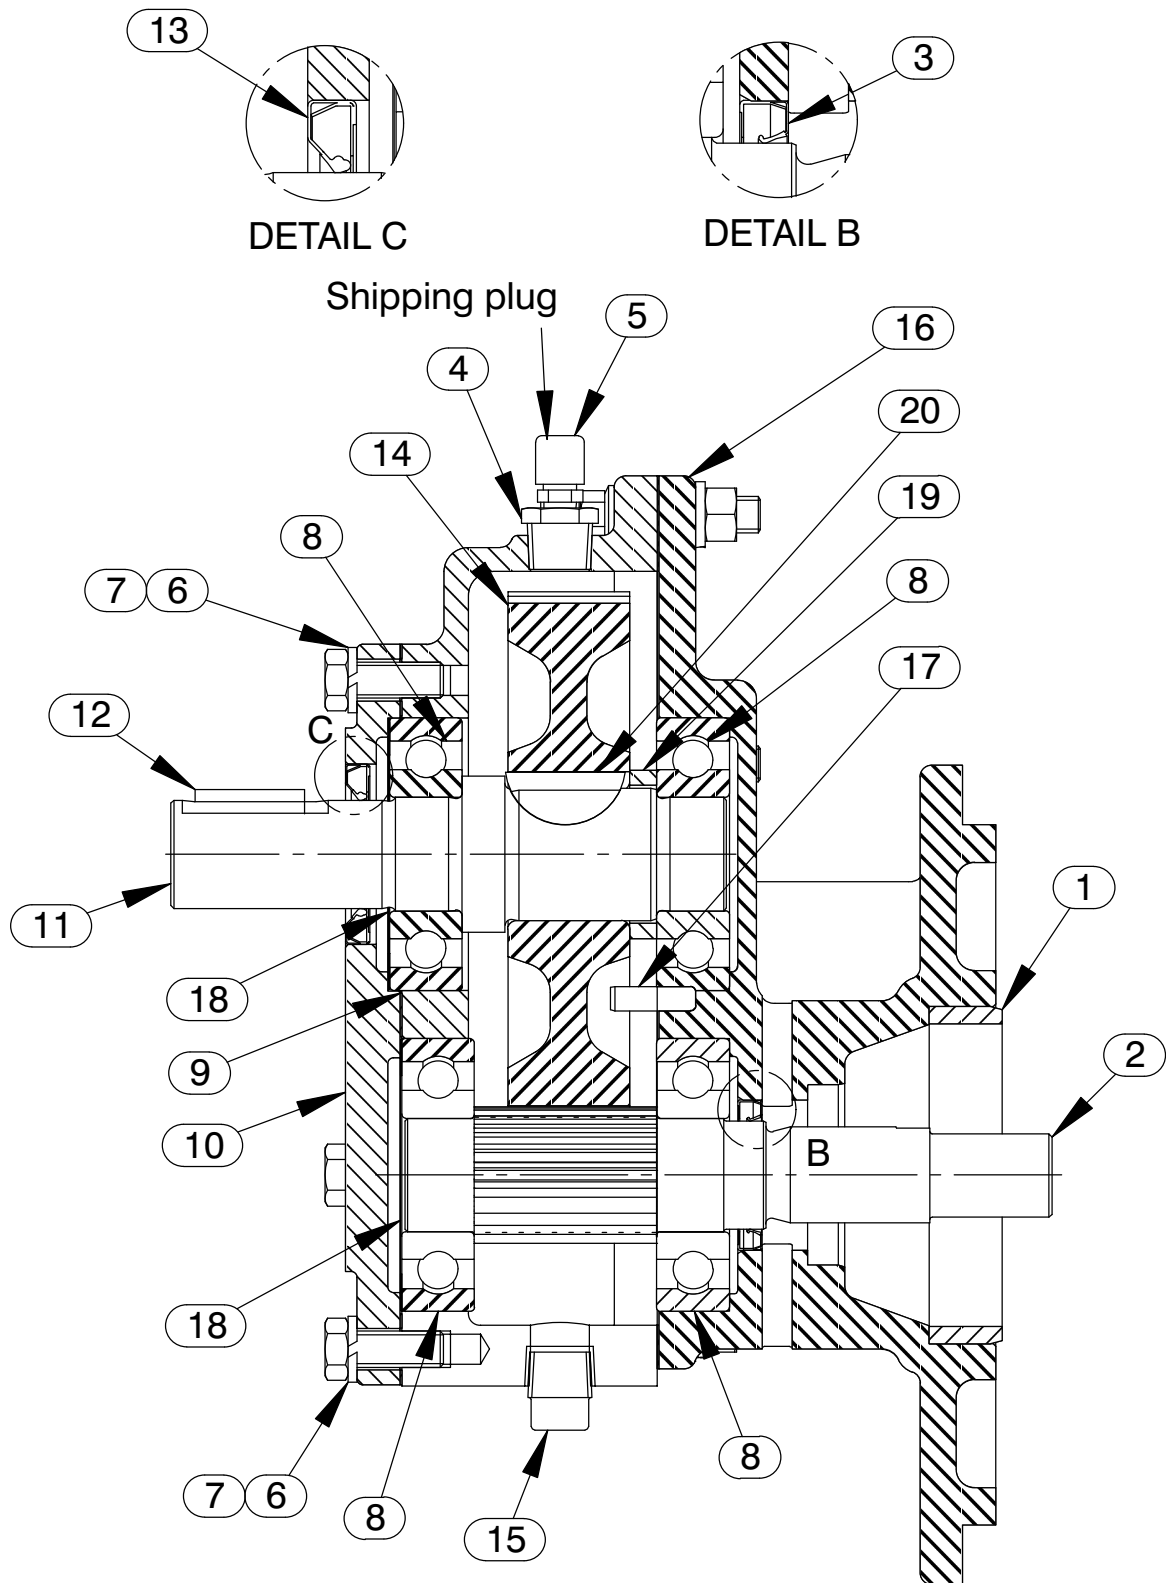

Figure 2. 44161-050 Gear Box Assembly
To loosen the impeller screw (15), immobilize the drive shaft (11, Figure 2). Remove the impeller screw, lockwasher (16), and impeller washer (17).
Inspect the pinion shaft (2, Figure 2) for distortion, nicks, scratches, or damage to the shaft keyway. Dress small nicks or burrs with a fine file or emery cloth. If excessive wear exists, refer to **GEARBOX DISASSEMBLY** and replace the shaft.